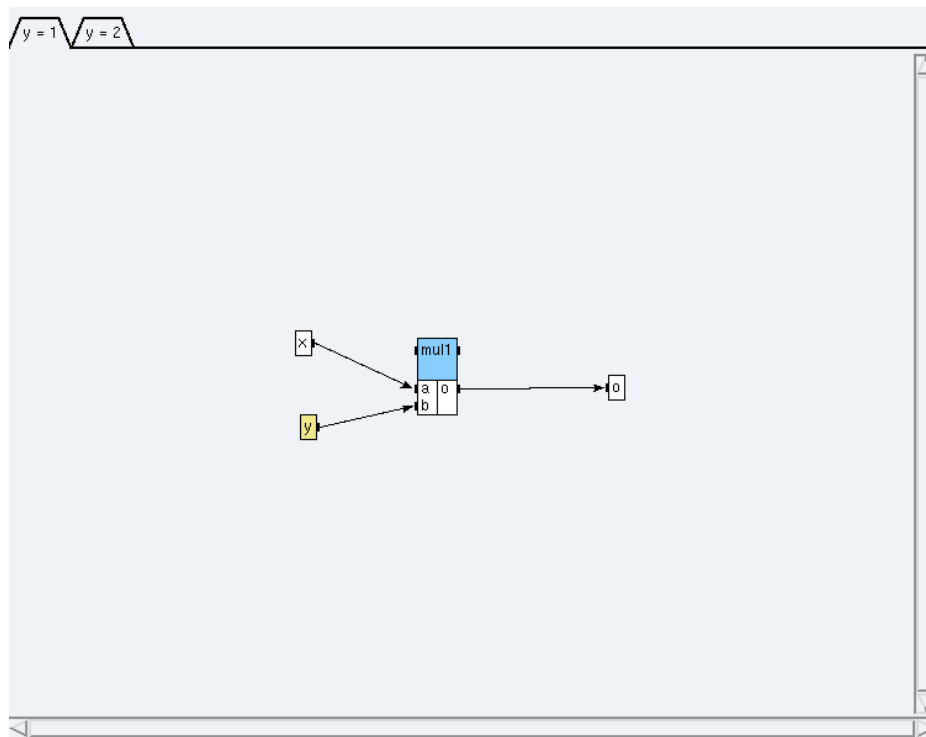

Figure 5.7: Condition  $y=1$
- click on the condition  $y=1$  (cf. figure 5.7) and create the function `mul1` of the definition **Arit\_mul** from int library,